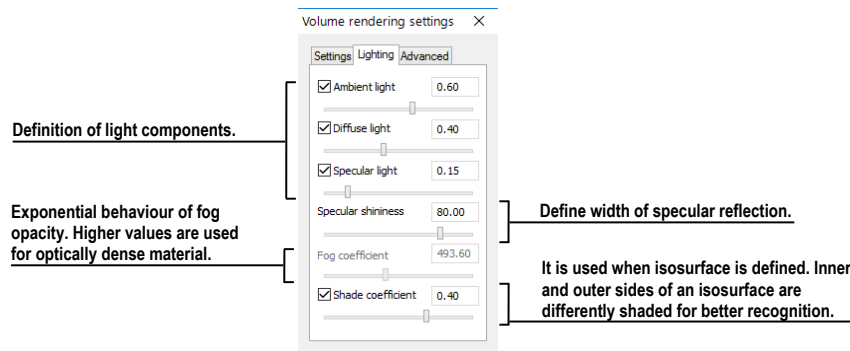

Figure 321 – Volume rendering settings, the second tab
- Lighting settings used in volume rendering on the second tab (see Figure 321)